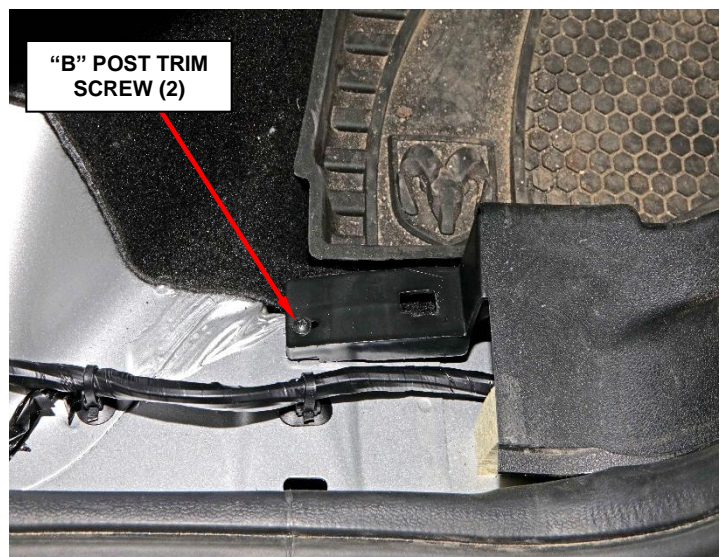

Figure 6 – "B" Post Trim Panel
5. Remove the screw securing the "B" post trim panel (Figure 6).